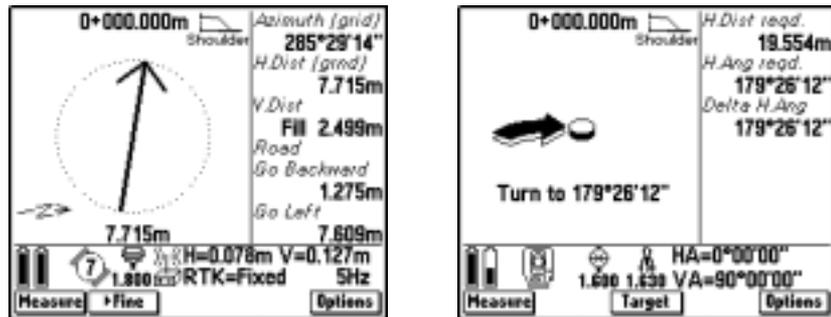

Figure 18.8 Stakeout graphical display for non-side slope point – GPS or conventional survey
Table 18.3 lists the icons that appear in the top right of the graphical display screen when you stake out a point on a road. (The graphical display screen is shown in Figure 18.8 on page 434.)
1. Select a point and press **Start**. The stakeout graphical screen appears, as shown in Figure 18.8.